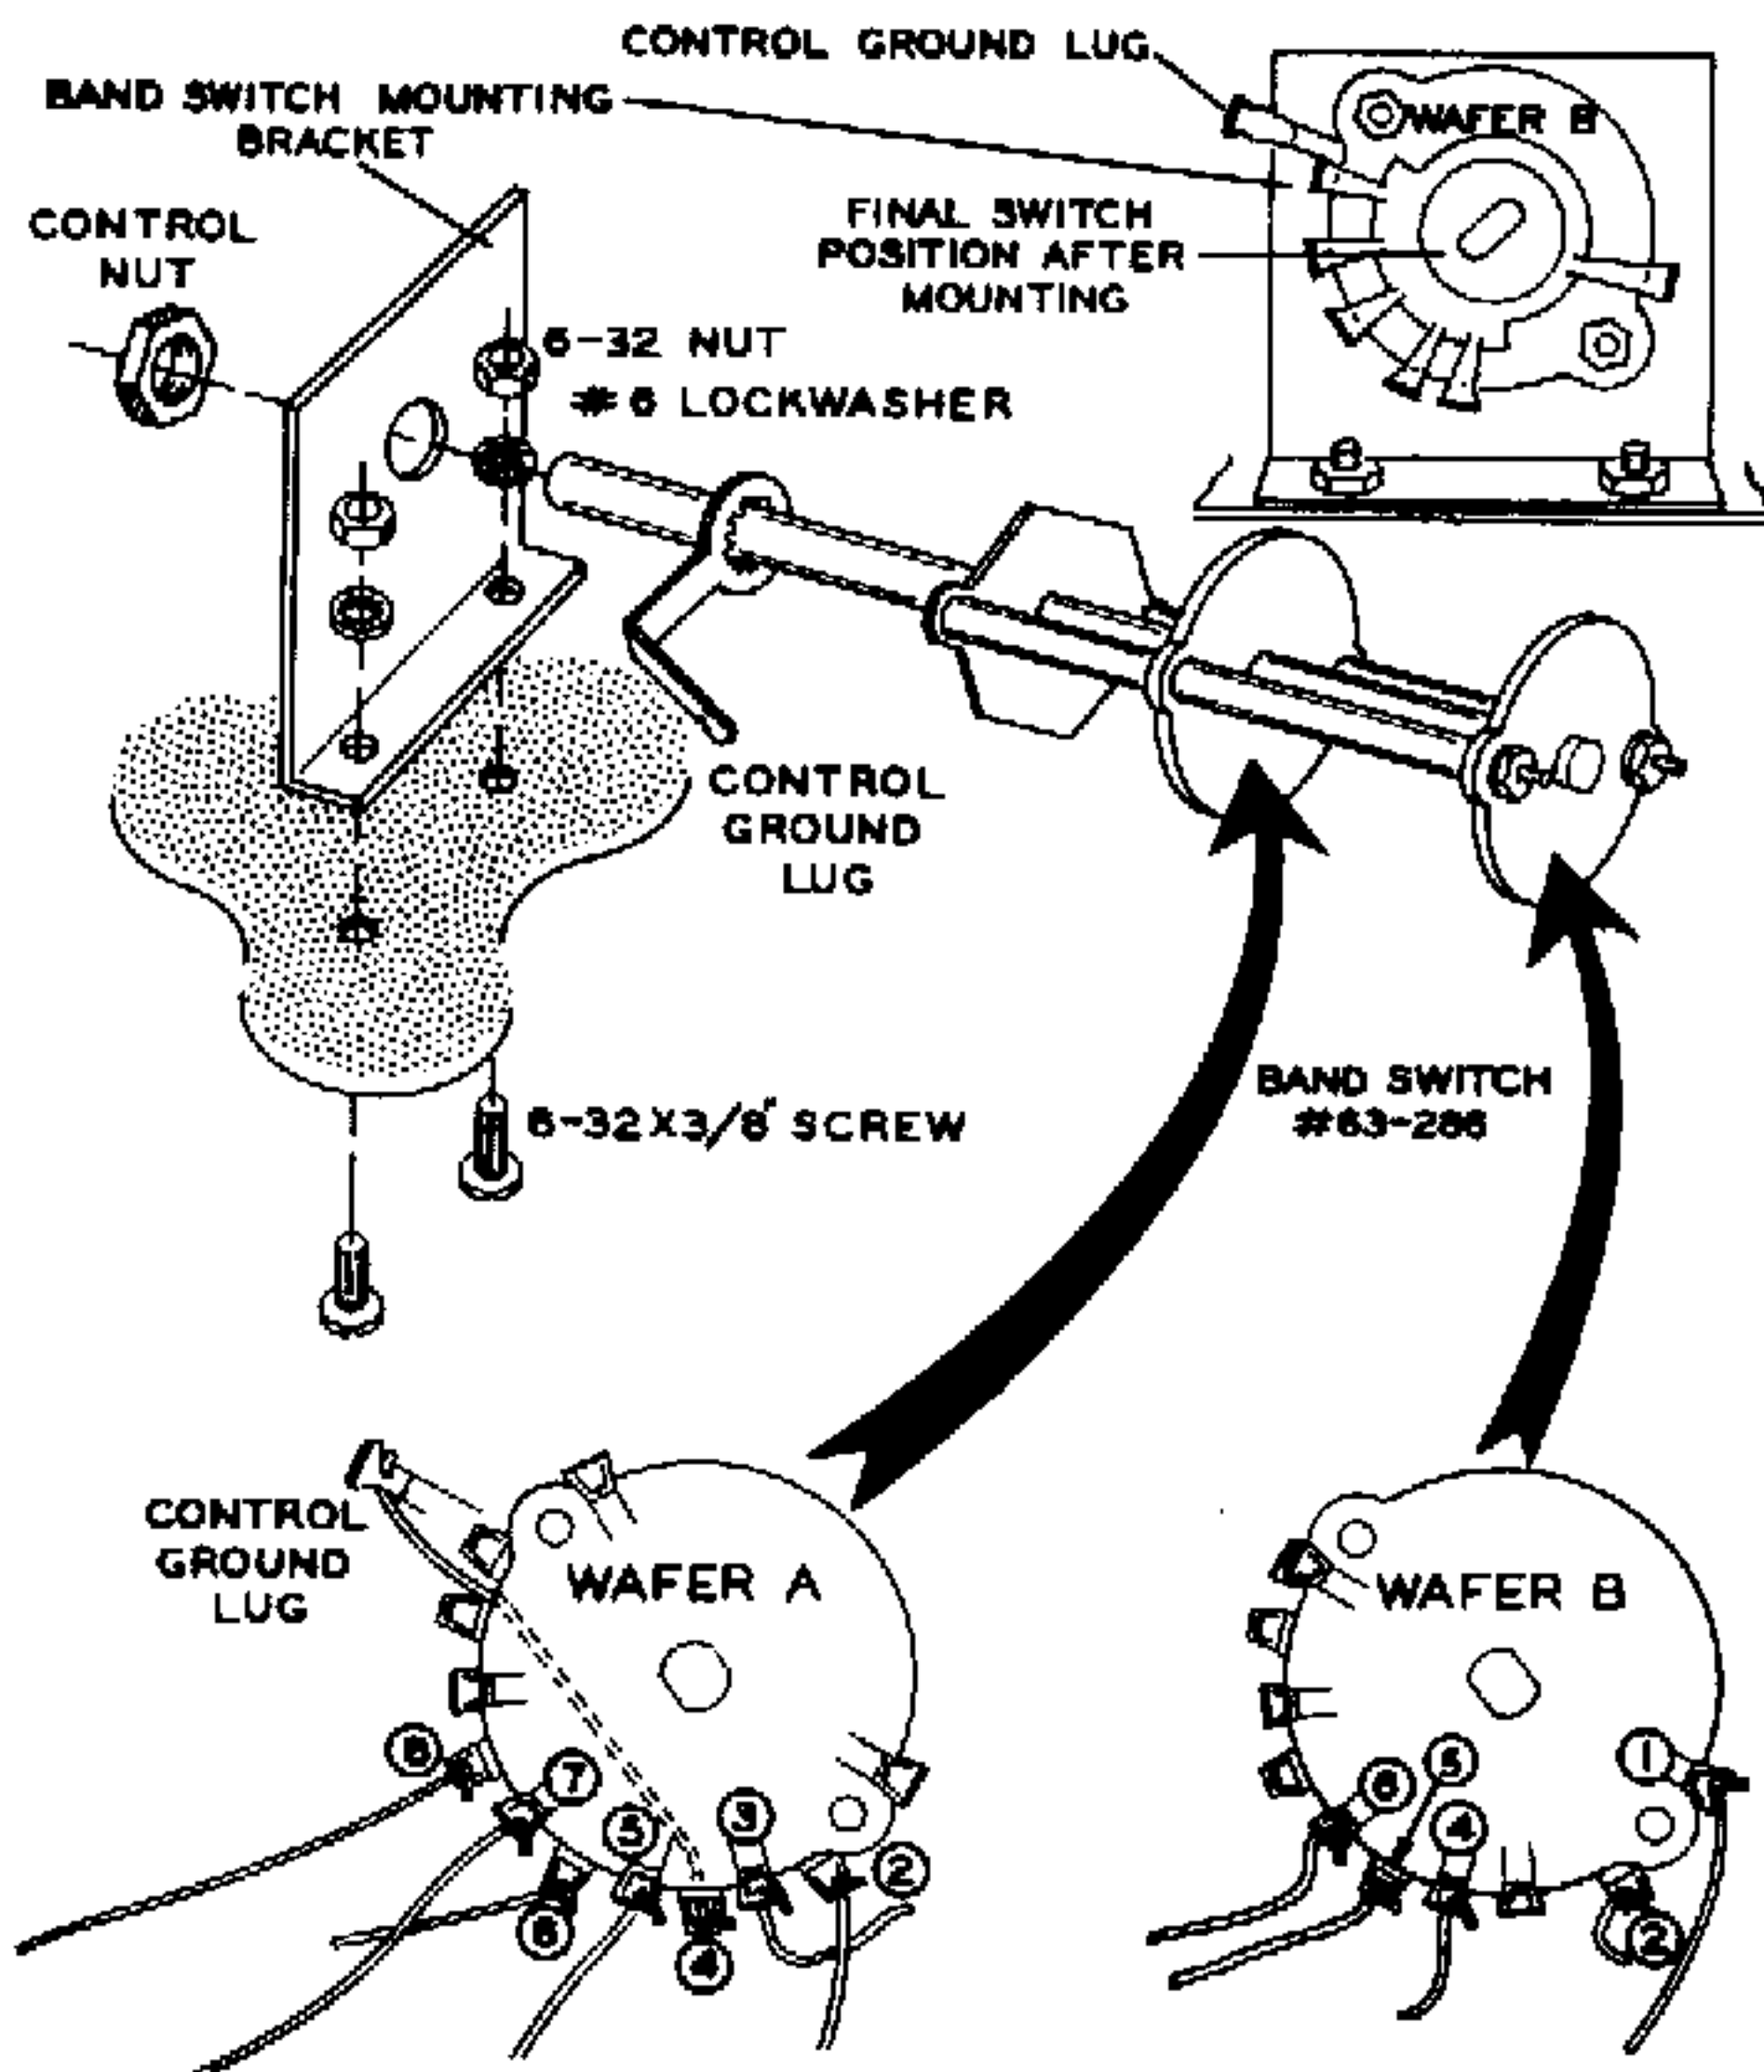

Figure 13
- () Locate the 4-position, 2-section rotary switch (#63-286) and position it as shown in Figure 13.
(✓) Locate the BAND switch mounting bracket, and mount the BAND switch to the bracket, using a control ground lug, and control nut as shown in Figure 13. Position the switch and control ground lug as shown.
(✓) Mount the BAND switch with the mounting bracket to the chassis using two 6-32 x 3/8" screws, #6 lockwashers, and 6-32 nuts as shown in Figure 13.